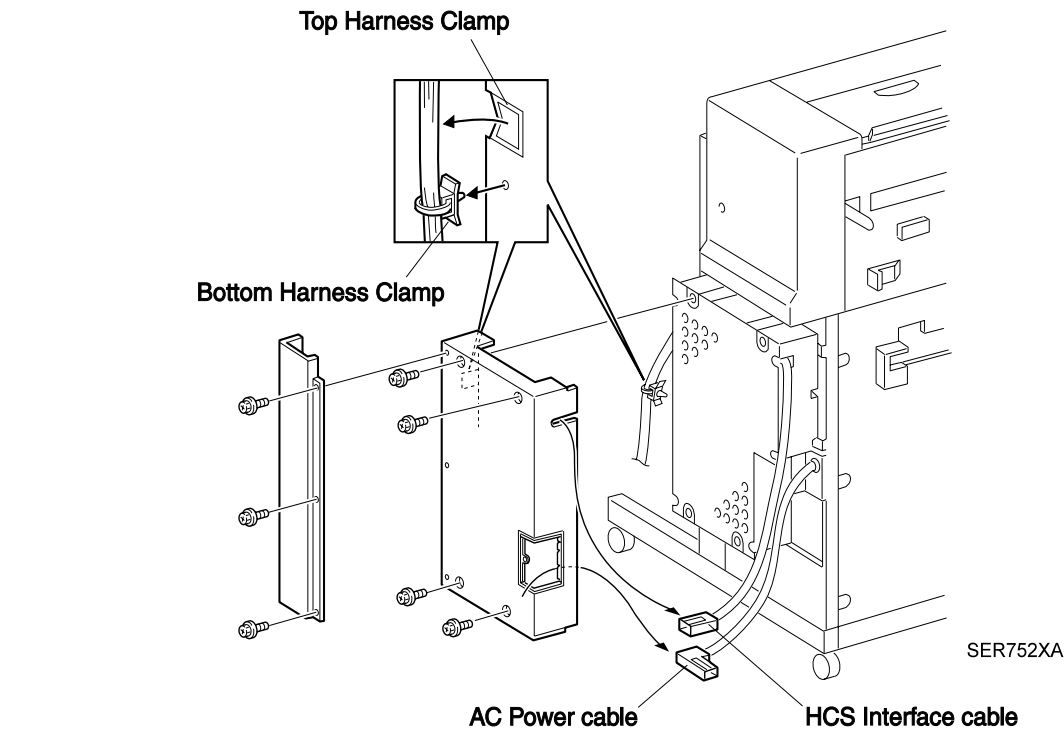

Figure 2
4. Free the wire harness from the top harness clamp (Figure 2).
1. Reinstall the Finisher PWB Cover onto the HCS frame (Figure 2).